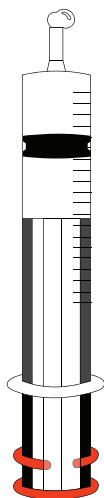

Figure 11 Remove air
13. Remove the vacuum syringe, turn the tip facing up, and remove residual air (Figure 11).